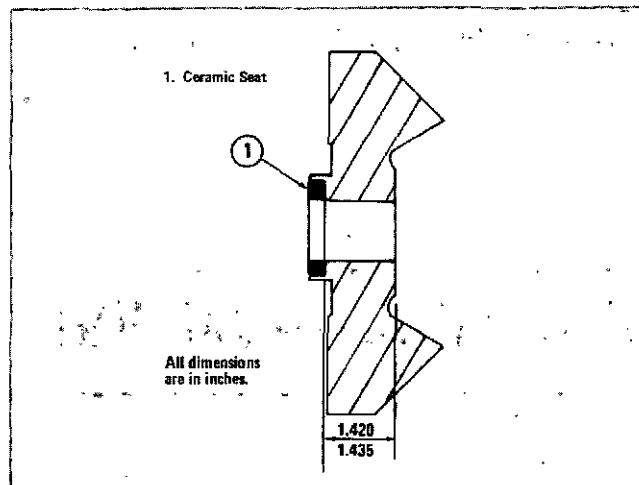

Fig. 8-1-3, V40822. Old style impeller
2. Measure distance from ceramic seat surface to end of impeller bore. See Fig. 8-1-3.